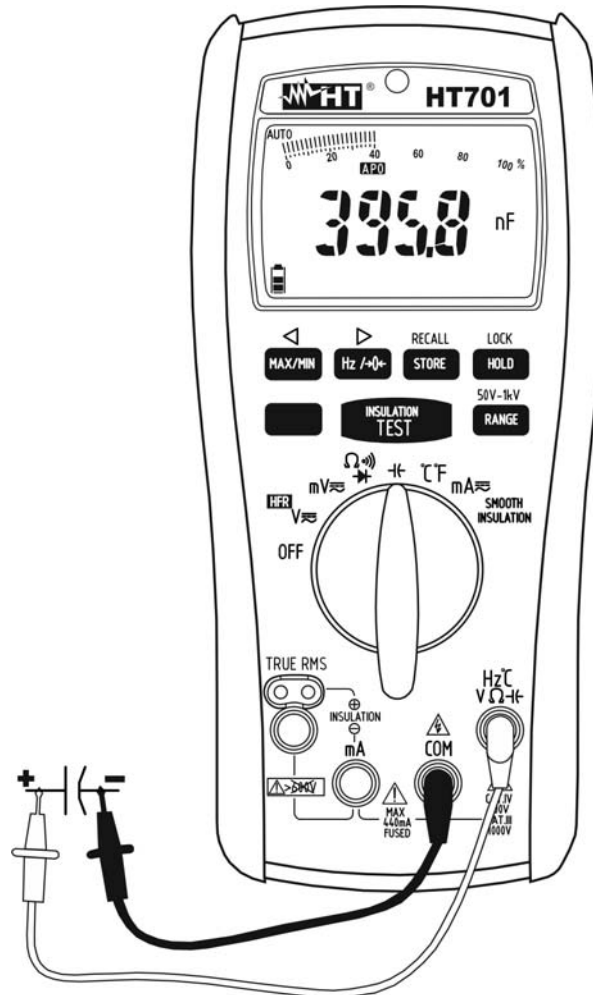

Fig. 8: Use of the instrument for Capacitance measurement
5. Position the leads at the ends of the capacitor to be tested, respecting, if necessary, the positive (red cable) and negative (black cable) polarity on the capacitor to be tested (see Fig. 8). The display shows the value of capacitance.